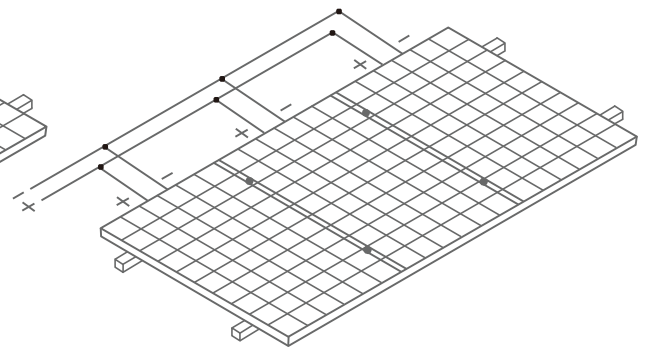

Figure 5 Connection in parallel
- When connected in parallel, the current output is equal to the sum of each string's current (as shown in Figure 5). Fuse is necessary for each module string. Take reference to the local regulation. Recommended maximum parallel Modules configurations: Fuse rating/ (1.25* short-circuit current).